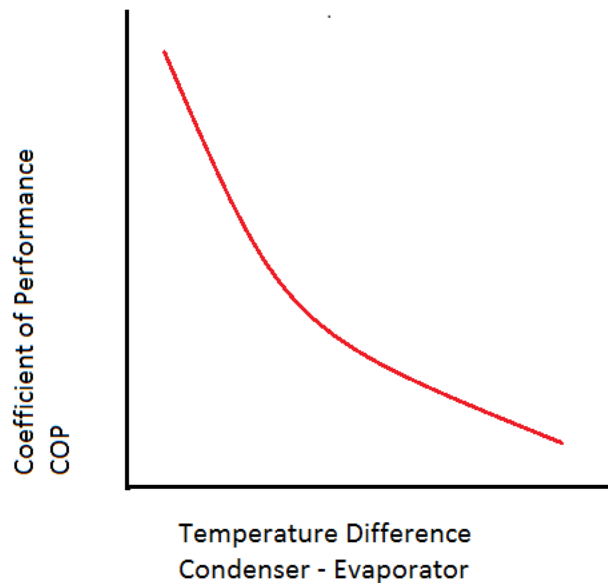

Fig. 9. Coefficient of performance depending on evaporation and condensation temperature
- The coefficient of performance is determined by the evaporation and condensation temperature Fig. 9.